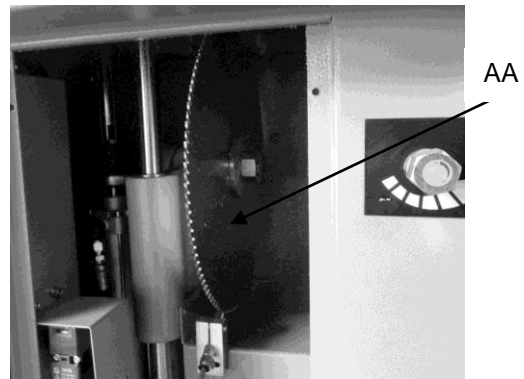
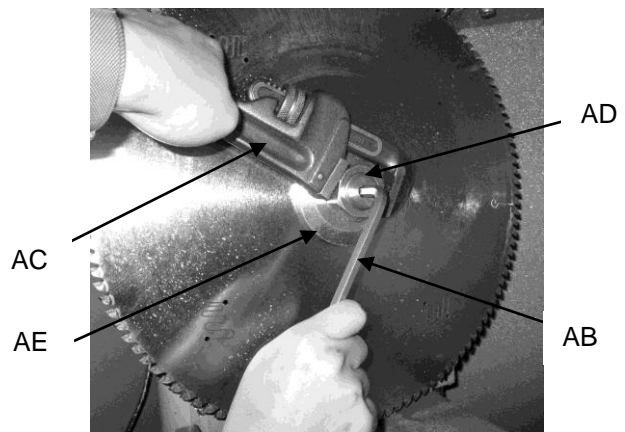

Fig 10
Fig 11
3. Check that blade is not turning anymore AA (Fig.10).
For the assembly of blade AA (Fig.10) operate by means of service spanners AB and AC (Fig.11).
Insert spanner AB (Fig.11) in the hole situated on the top of the motor spindle.
Insert spanner AC (Fig.11) in the key set of nut AD (Fig.11).
Keep spanner AB (Fig.11) steady and loosen nut AD (Fig.11) turning it in clockwise direction by means of spanner AC (Fig.11).
Take off nut AD (Fig.11) and flange AE (Fig.11), insert blade AA (Fig.10) making sure that parts in contact are perfectly clean to avoid harmful vibrations.
Assemble flange AE (Fig.11) and nut AD (Fig.11) locking it by means of spanners AB and AC (Fig.11).